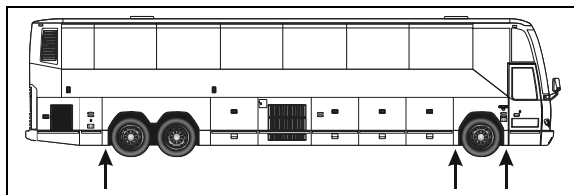

FIGURE 5: JACKING POINTS ON FRAME 18524
1. Raise vehicle by its jacking points on the body (fig. 5 or see Section 18, "Body" under heading "Vehicle Jacking Points"). Place jack stands under frame. Remove drive axle wheels (if required, refer to Section 13, "Wheels, Hubs And Tires".